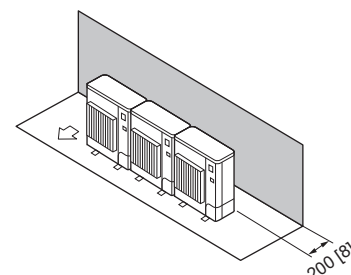

Fig. 2-12
1. Obstacles at rear only (Fig. 2-12)